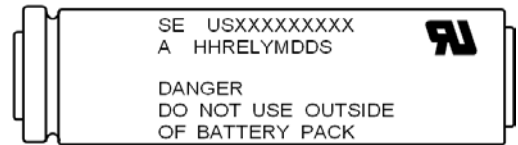

Fig.1
6.2 Trade Mark (Fig.1 : USXXXXXXXXX) 登録機種名 (Fig.1 : USXXXXXXXXX)
6.3 Plant (Fig.1 : A for plant code) 製造所 (Fig.1 右記図 : A)
6.4 Specification (Fig.1 : HH for Cell Type) 仕様 (Fig.1 : HH)
6.5 Lot Number (Fig.1 : YMDDS for Manufacturing Date of Cells)
ロット、セル製造年月日 (Fig.1 : YMDDS)
Lot Number (Fig.1 : YMDDS for Manufacturing Date of Cells)
6.8 Warning Message (Fig.1)